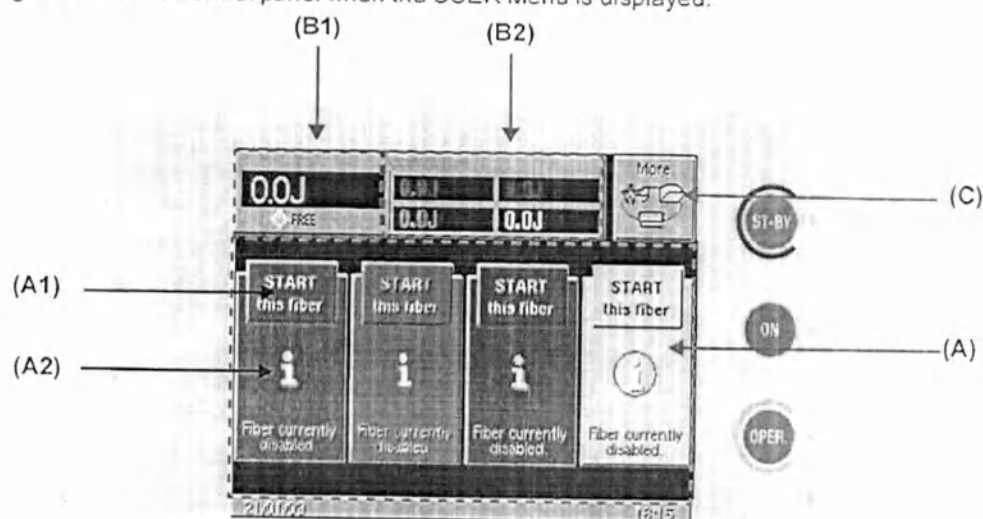
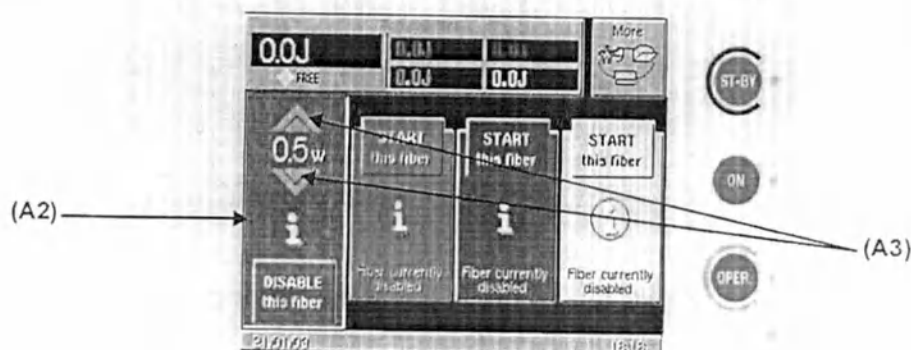
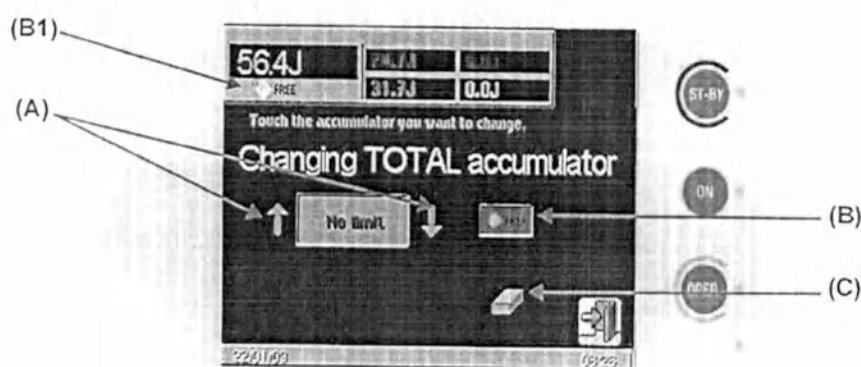
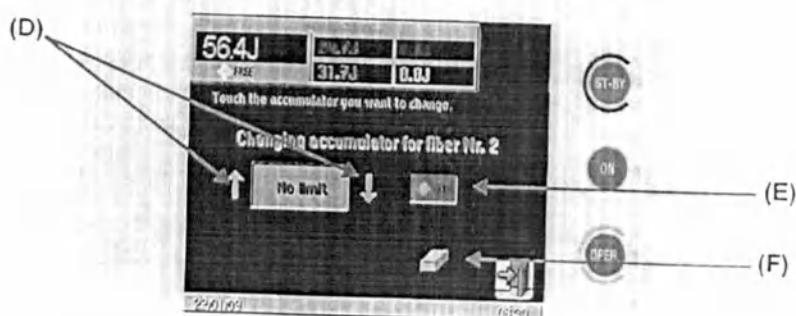

Fig. 9 - USER Menu
Fig. 10 - USER Menu with a fiber enabled
Fig. 13 - Total accumulator menu
Fig. 14 - Fiber N°2 accumulator
Fig. 9 shows the control panel when the USER Menu is displayed.
The central section of the USER menu - shown with (A) in Fig. 9 - allows to display and to manage the fibers connected to the apparatus: it is splitted in four panels which are related to the four SMA connectors available on apparatus. Each area is aligned with the corresponding connector, moreover, background colour matches the colours assigned to the fibers.
Each panel reports the state of the fiber - for example "Fiber currently disabled" in Fig. 9 - and provides an "i" -info- option and a START/STOP option.
Fig. 9 shows USER Menu in case that all the fibers are correctly connected and indentified, but none of them is enabled to be used.
To enable a fiber, touch the corresponding "Start this fiber" area: if you want, for example, use the fiber connected on aperture N.1, touch the area pointed out by (A1) in Fig. 9; the display changes as shown in Fig. 10.
When a fiber is enabled, the apparatus displays its power setting: the arrow keys above and below the value - (A3) in Fig. 10 - allow to vary the power setting between 0.5W and 7W, with 0.5W step.
Touching "i" area - (A2) in Fig. 9 and Fig. 10, is possible to display, *for each fiber*, the following panel:
The area shown as (B1) in Fig. 9 displays the value of total accumulator and its limit (if selected); the other four areas - (B2) - display single fiber accumulator (each one with the same colour of respective fiber). If a limit has been selected for the single fiber, the accumulator's value is circled with a red frame.
This accumulator is increased during laser emission and retains the energy delivered by all the enabled fibers during laser treatment. Touch the area (B1) in Fig. 9 to open the menu shown in Fig. 13; this menu allows to clear the accumulator and set/remove a limit for the *total* energy to be delivered during laser treatment.
Touch the two arrow shown as (A) in Fig. 13 to modify the value of energy limit. The value can be selected from 10J to 98000J or "No limit" - in this case there's no energy control -. Touch the "FREE" area - (B) in Fig. 13 - to directly select "No Limit". The area (B1) in Fig. 13 shows the selected value.
To select one of the two options is sufficient to touch the corresponding icon: the background will become green. In the (B1) area of Fig. 13, below the limit, also the selected action will be displayed.
The **TOTAL ACCUMULATOR** value may be reset touching on the icon pointed out by (C) in Fig. 13: apparatus asks the user to confirm the reset of total accumulator. Then apparatus asks then the user if he wants to reset single fibers accumulators too: if the "YES" field is touched apparatus proceeds to reset to zero all fiber partial accumulators, touching the "NO" field only the total accumulator will be reset.
The four areas pointed out by (B2) in Fig. 9 display the energy emitted by each fiber, since apparatus start-up or last reset.
In order to modify accumulator settings of a fiber, the user has to touch the value which has the same colour of that fiber: for example, touch the green displayed value to modify settings of the accumulator corresponding to the 2nd fiber from the left - compare Fig. 9 -. The screen changes as shown in Fig. 14:
Using the arrow keys pointed out by (D) in Fig. 14, the user may set a limit for the energy to be delivered during laser emission from the selected fiber.
This limit may be set between 10 J and 98000J or "No limit" - that's to say energy control is disabled. "No limit" option may be directly selected touching the "FREE" area - (E) in Fig. 14 -.
During laser emission, apparatus continuously updates the energy accumulator values in the areas pointed by (B2) in Fig. 9.
The accumulator may be reset, independently for each fiber and independently from total accumulator, touching the icon pointed by (F) in Fig. 14.